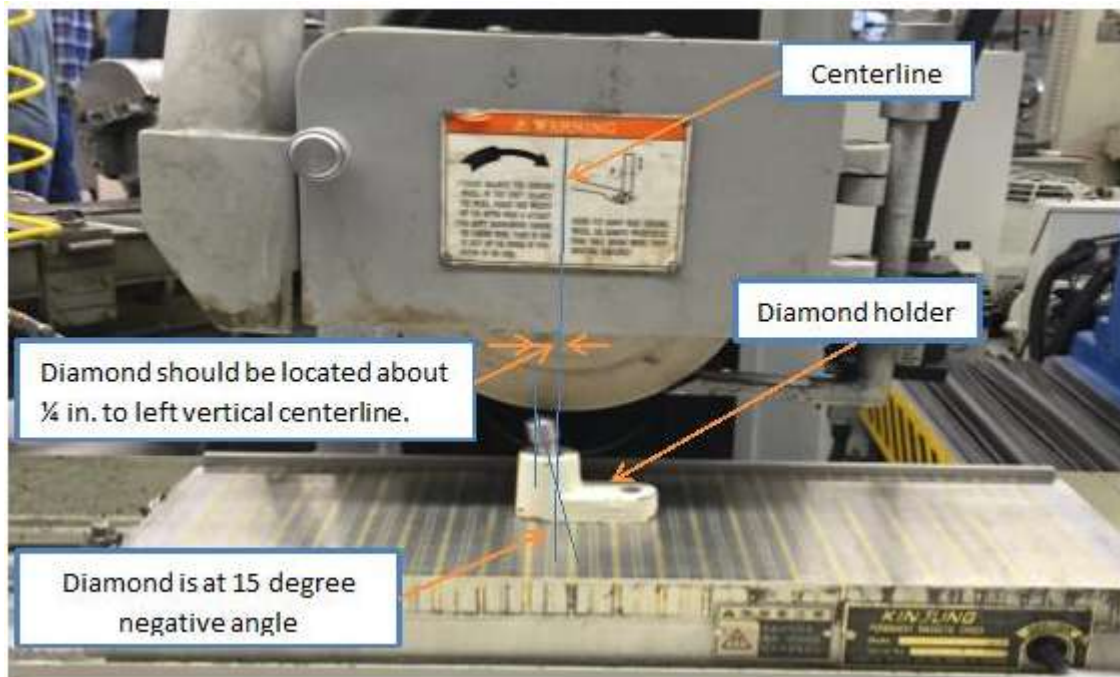

Figure 2. Dressing the wheel
8. Zero the z-axis of the workpiece by setting the dial on downfeed handwheel to 0 inches. See figure 2.